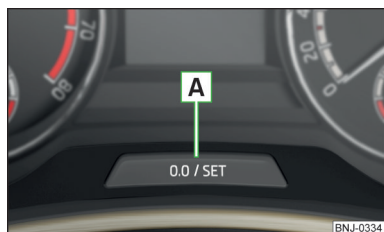

Fig. 35
➤ Press button **A** » Fig. 35 on page 46.
- Press and hold the button **A** » Fig. 35 until the time is shown in the display.